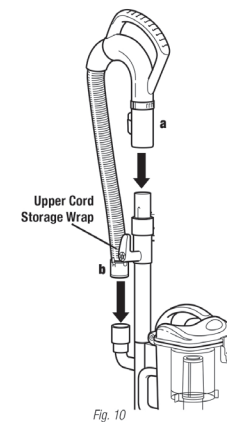

Fig. 10
- Push the handle (a) onto the top of the extension wand until you hear it click into place. (Fig. 10)
- Insert the end of the stretch hose (b) into the connector on the back of the Lift-Away® canister. (Fig. 10)
- Due to the huge suction power of this vacuum, it may become necessary at times to adjust the suction release (c) on the handle. (Fig. 10) If the vacuum seems difficult to push or pull or if it is lifting up area rugs, adjust the suction release by rotating the collar 90° counterclockwise to open the valve. Rotate the collar clockwise to close the valve when you need high suction and for vacuuming floors.